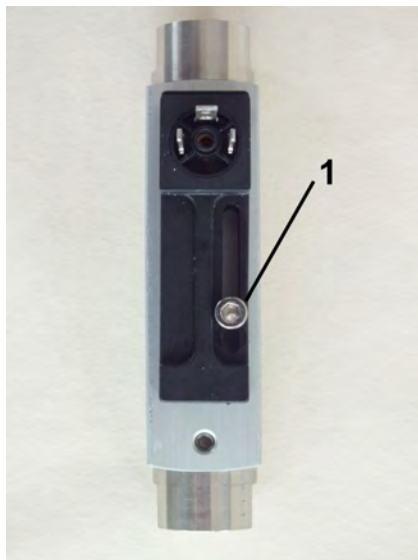

Fig. 31: Loosen set screw
2.  Loosen the set screw of the switch contact (Fig. 31/1) using a hex screwdriver.
6.  Re-tighten the switch contact set screw (Fig. 31/1) using a hex screwdriver. When doing so, observe the correct tightening torque of the screw.